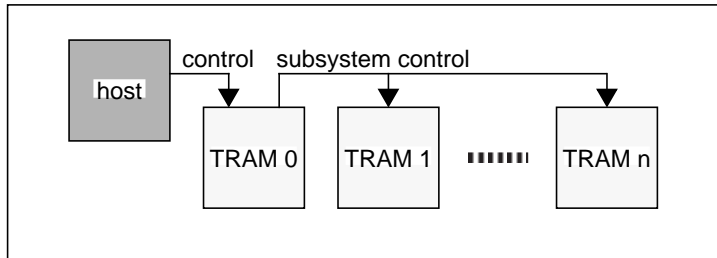

Figure 9. Control architecture for TDS
- the host computer controls only one transputer - the root or master transputer. This configuration is suitable for occam TDS users and also for Inmos toolset users who wish to use the interactive debugger, where a program (i.e. the TDS) runs on the master processor while other processors in the network are controlled from the master processor's subsystem port and are called a subnetwork. This enables TDS or the interactive debugger to boot/debug the other processors. Figure 9 shows the situation.